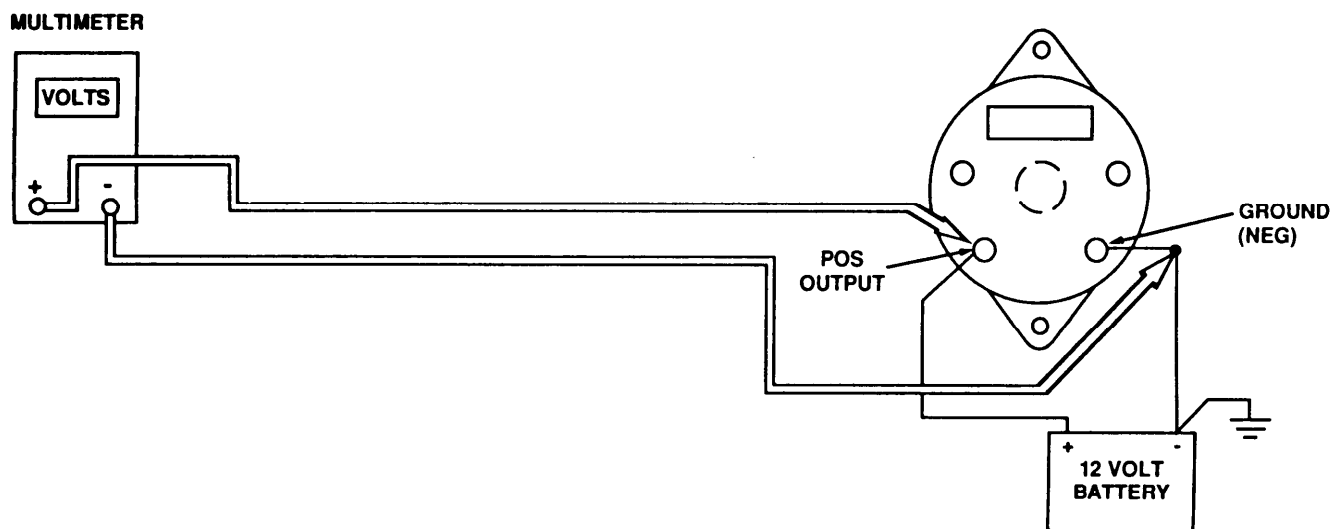

Figure 4-15. Alternator Test Configuration.
- b. Refer to figure 4-15 and connect multimeter as follows: